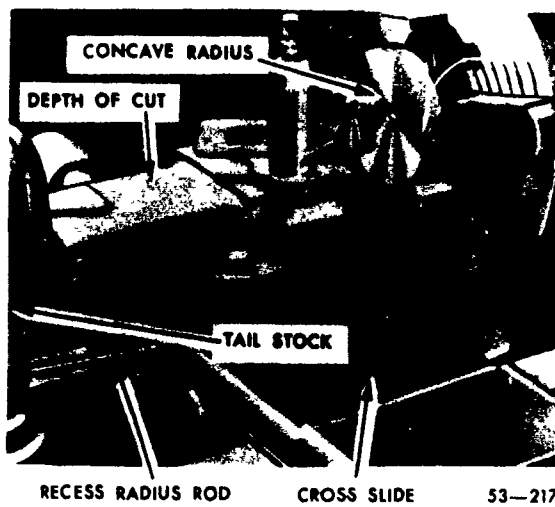

Figure 5-13. Use of a radius rod
**Radius rod.** When you do radius turning using the radius rod, the length of the rod should be equal to the radius that you want to cut. Place the rod between the cross-slide and tailstock, as shown in figure 5-13. The cross-slide will then move in an arc when you apply power feed to the cross-slide. The resistance of the cut holds the rod in position.